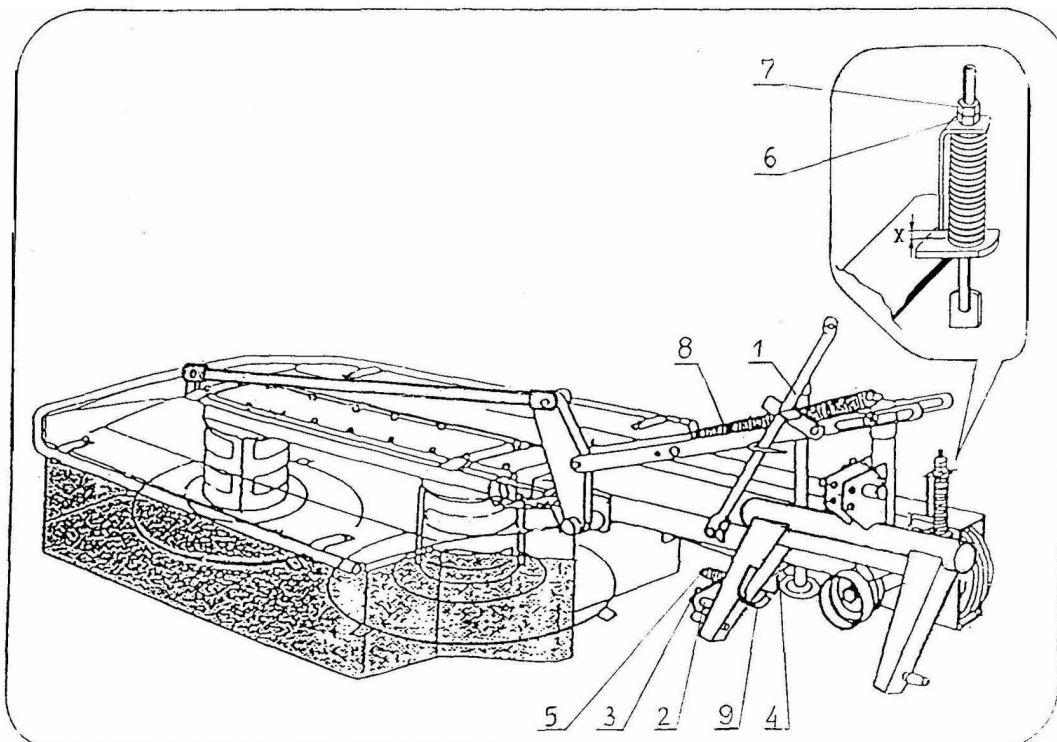

Fig. 5. Mower in work position.
- When mowing on uneven ground or in cooperation with lighter tractors on steep slopes suspend the spring (pos. 8. Fig.5.) to down hole.
- During the season check the functioning of the lock every day (pos. 4. Fig. 5.). If the mechanism functions while mowing, even though no obstacle has been struck, this means that the force of the spring is too small and it should be tightened better with a securing nut (pos. 5. Fig. 5.).
- During the first few hours of work carefully watch the behaviour of V-belts, after 0,5 - 4 hours of work under full load - tighten belts. The 'x' clearance (Fig. 5) should be approximately 1 mm. This clearance is adjusted with nuts 6. and 7. Proceeding like this the initial stretch is considered. After next 24 hours of work check the indicator again and tighten belts if necessary. Maximum 'x' clearance cannot exceed 3 mm. Next inspections can be done even after few hundred hours of work.